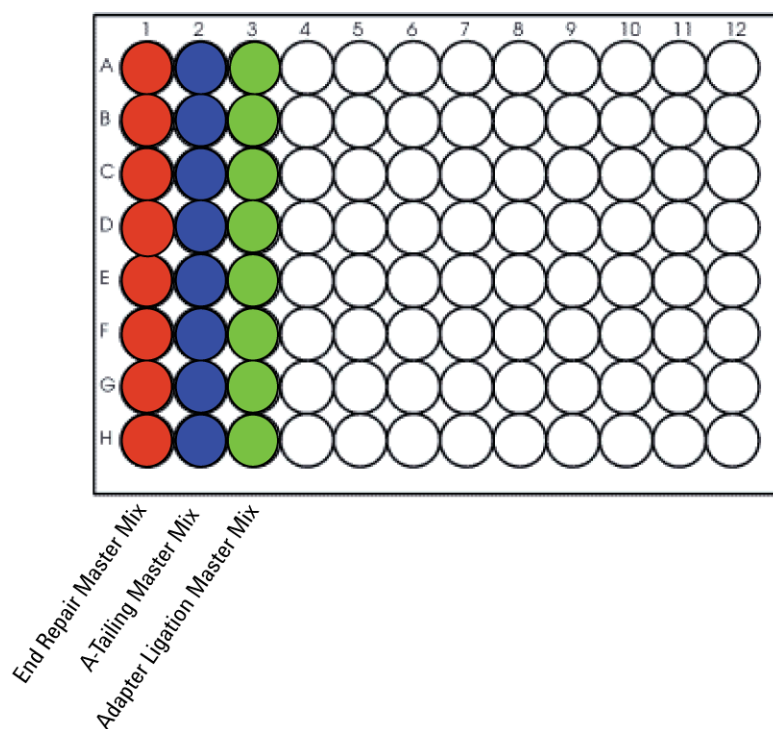

Figure 12 Configuration of the master mix source plate for LibraryPrep_XT_ILM_v1.5.1.rst
- 7 In a Nunc DeepWell plate, prepare the master mix source plate containing the master mixes prepared in steps 3 to 5. Add the volumes indicated in Table 36 of each master mix to all wells of the indicated column of the Nunc DeepWell plate. Keep the master mixes on ice during the aliquoting steps. The final configuration of the master mix source plate is shown in Figure 12.